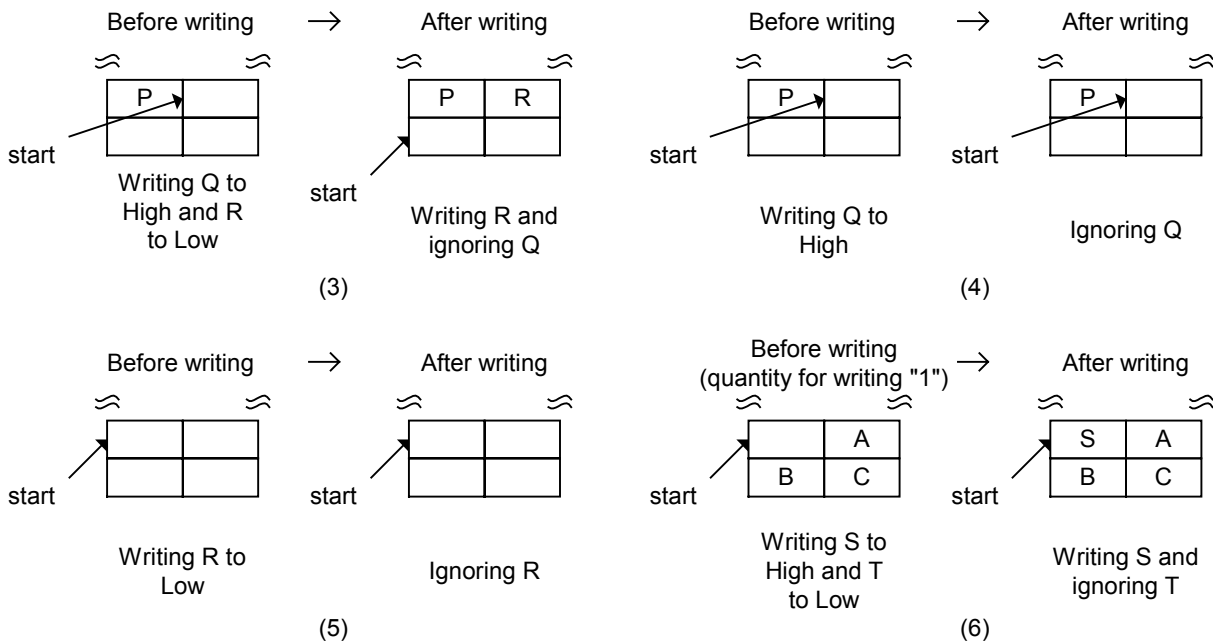

Figure 1-84 FIFO writing processing (operation requiring caution)
If byte writing is performed from a state in which byte boundaries exist in the FIFO, writing to High will be ignored, and only writing to Low will be performed (Figure 1-84 (3)). That is, the operation is identical to that when writing to Low. If writing to High only from a state in which byte boundaries exist in the FIFO, writing will be ignored (Figure 1-84 (4)).
If writing only to Low from a state in which byte boundaries do not exist in the FIFO, this writing will be ignored (Figure 1-84 (5)). If word writing from a state in which byte boundaries do not exist in the FIFO and the quantity that can be written is "1," writing to Low will be ignored, and only writing to High will be performed (Figure 1-84 (6)). That is, the operation is identical to that when writing to High.